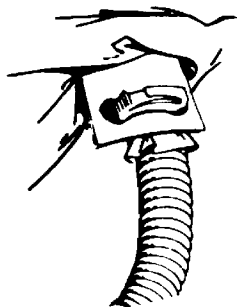

Figure 13
3. Install nylon clamp over air entry sleeve and breathing tube, inserting clamp locks through two holes in plastic anchorplate that is sewn into hood. Locks should face away from user's neck (see Figure 13).